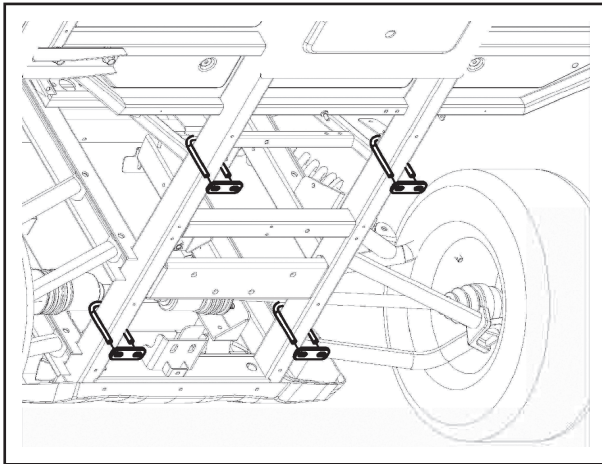

Fig. 1
Step 4: Locate the Mounting Bracket parts and place them near the ATV/UTV. In a well-lit area with enough room to assemble the Snow Plow Mounting Bracket to the bottom of the vehicle frame, place items 1 through 10 near the vehicle.
Step 5: Install the Horizontal Mounting Bracket (1) to the vehicle frame. Ensure the vehicle is cold prior to beginning. With the vehicle lifted up, the wheels chocked, and the brake set, look under the vehicle and determine if the frame is a round tube or square tube. Use the Round Tube U-Bolts (3) if the frame is round tube, and use the Square Tube U-Bolts (4) if the frame is square tube.
1. Place the U-bolt over the frame with the threads facing down. Position the U-bolts so they are separated as far as possible. Place a U-Bolt Clamp Plate (5) onto each U-Bolt, place a piece of painters tape on the thread to hold the clamp in place (Fig.1).
2. Install a Carriage Bolt (6) into the center slot of each Vertical Mounting Bracket (2), and use a piece of painters tape on the back of the bolt to hold it in place.